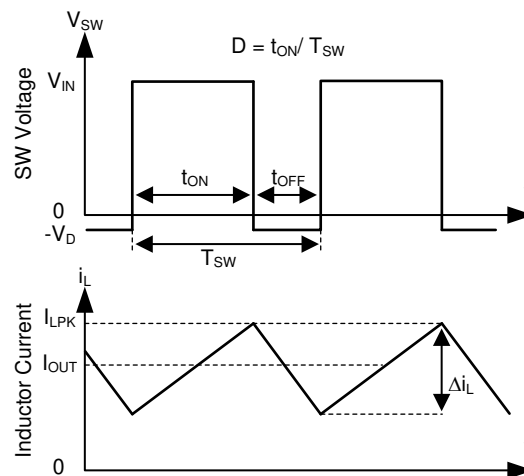

图 7-1. SW Node and Inductor Current Waveforms in Continuous Conduction Mode (CCM)
The following operating description of the LMR23615 refers to # 7.2 and to the waveforms in 图 7-1. The LMR23615 device is a step-down, synchronous buck regulator with integrated high-side (HS) and low-side (LS) switches (synchronous rectifier). The LMR23615 supplies a regulated output voltage by turning on the HS and LS NMOS switches with controlled duty cycle. During high-side switch ON-time, the SW pin voltage swings up to approximately  $V_{IN}$ , and the inductor current  $i_L$  increase with linear slope  $(V_{IN} - V_{OUT}) / L$ . When the HS switch is turned off by the control logic, the LS switch is turned on after an anti-shoot-through dead time. Inductor current discharges through the LS switch with a slope of  $-V_{OUT} / L$ . The control parameter of a buck converter is defined as duty cycle  $D = t_{ON} / T_{SW}$ , where  $t_{ON}$  is the high-side switch ON time and  $T_{SW}$  is the switching period. The regulator control loop maintains a constant output voltage by adjusting the duty cycle  $D$ . In an ideal buck converter, where losses are ignored,  $D$  is proportional to the output voltage and inversely proportional to the input voltage:  $D = V_{OUT} / V_{IN}$ .